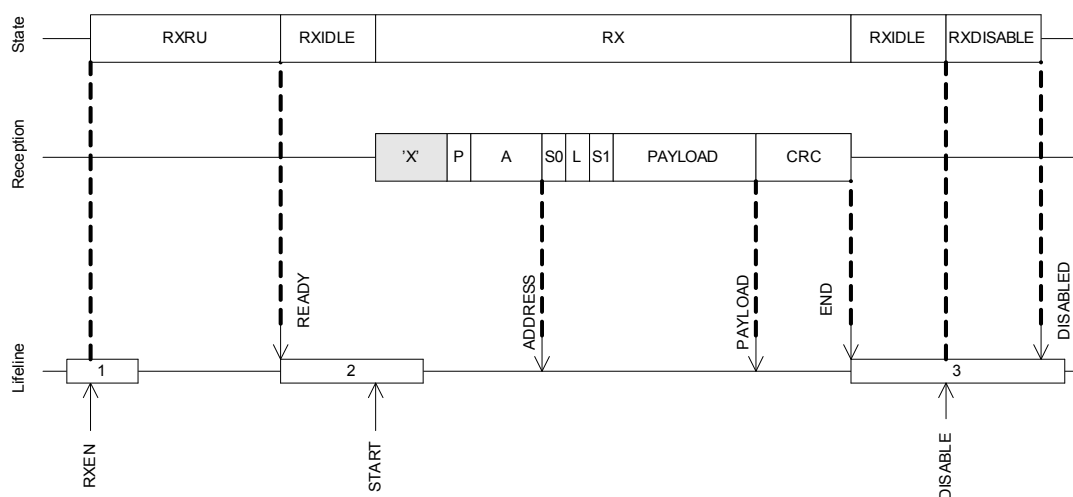
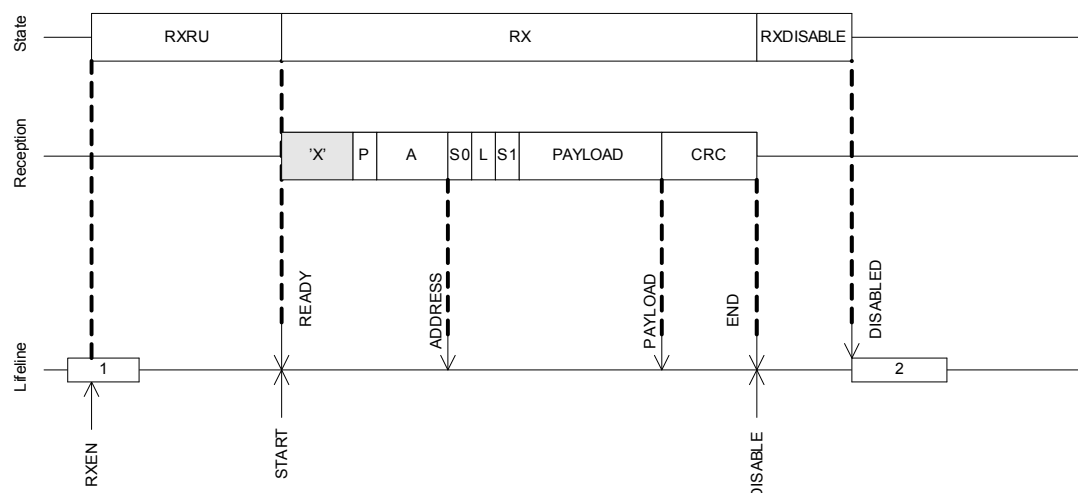

Figure 27 Receive sequence
Figure 28 Receive sequence using shortcuts to avoid delays
Before the RADIO is able to receive a packet, it must first ramp-up in RX mode. An RXRU ramp-up sequence is initiated when the RXEN task is triggered. After the radio has successfully ramped up it will generate the READY event indicating that a packet reception can be initiated. A packet reception is initiated by triggering the START task. As illustrated in **Figure 27** the START task can first be triggered after the RADIO has entered into the RXIDLE state.
Figure 28 on page 80 illustrates a single packet reception where the CPU manually triggers the different tasks needed to control the flow of the RADIO, that is, no shortcuts are used. If shortcuts are not used, a certain amount of delay, caused by CPU execution, is expected between READY and START, and between END and DISABLE. As illustrated in **Figure 28** on page 80 the RADIO will be listening and possibly receiving undefined data, illustrated with an 'X', from START and until a packet with valid preamble (P) is received.
A slightly modified version of the receive sequence from **Figure 27** is illustrated in **Figure 28** on page 80 where the RADIO is configured to use shortcuts between READY and START, and between END and DISABLE, and therefore no delay is introduced.